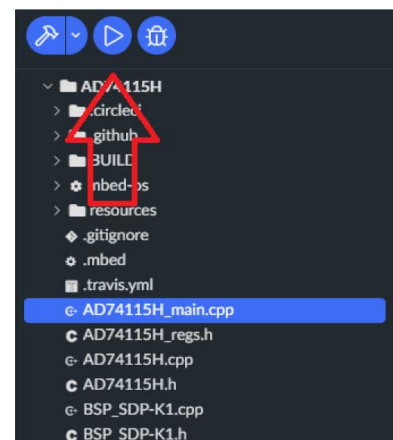

Figure 17. Download the Code to the SDP-K1 Board
12. Download the code to the SDP-K1 board (see Figure 17).